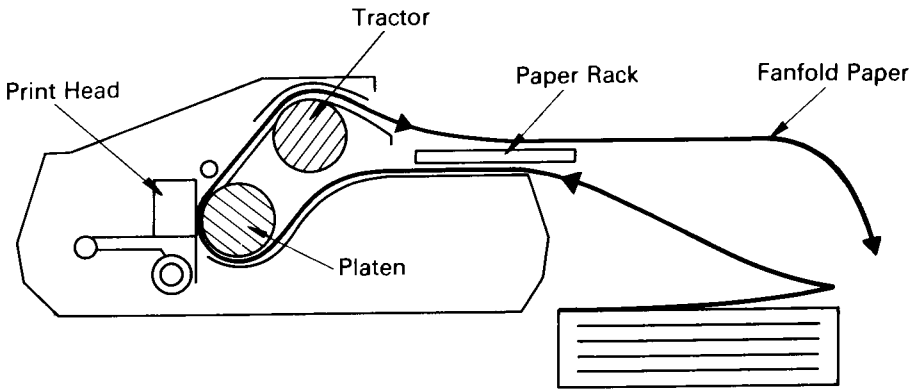

Figure 10. Fanfold Paper Path.
11. Replace the paper rack and the printer cover. For the proper paper flow, we recommend that you attach the paper rack and lay it down flat with the paper feeding underneath it into the printer (Figure 10).